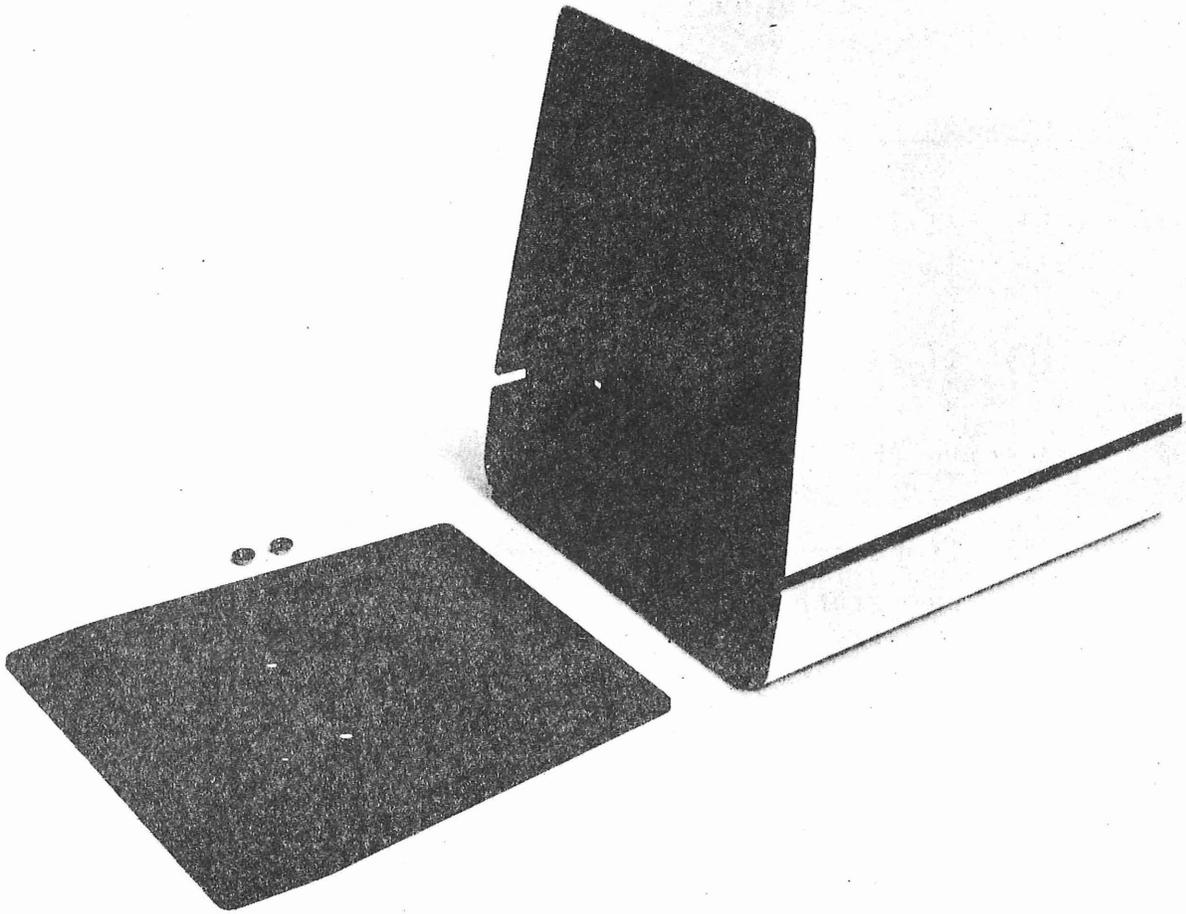

Figure 4-10. Front Panel Removal
- (a) Remove the nuts on the DATA and CLEAR switches being careful not to mar the plastic front panel. The front panel should now be free from the toggle switches. (See figure 4-10.)